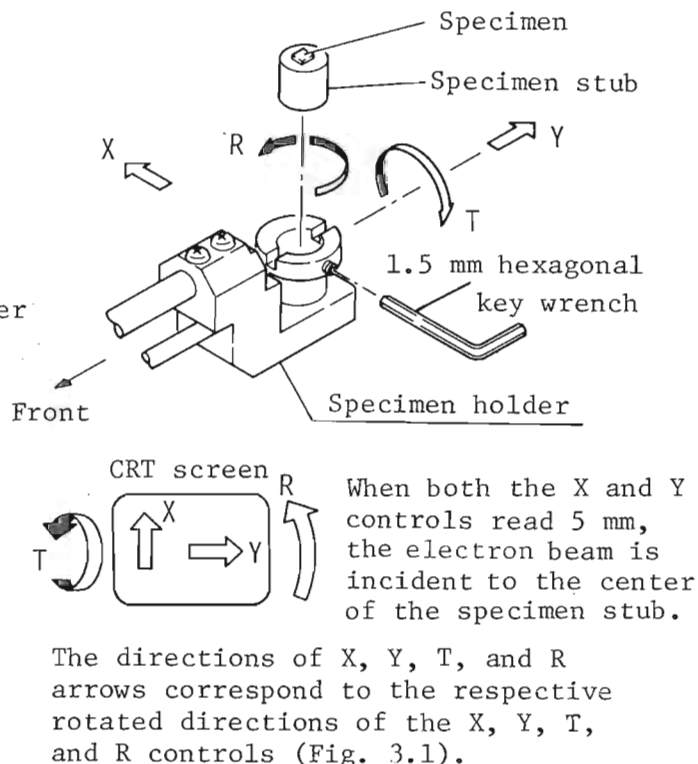

Fig. 3.2 Image movement on CRT screen
3. Insert the specimen stub, complete with specimen, into the specimen holder, adjust the specimen height adjust screw so as to make the specimen flush with the holder rim, and secure the stub with the stub fixing screw (Figs. 3.2 and 3.3).